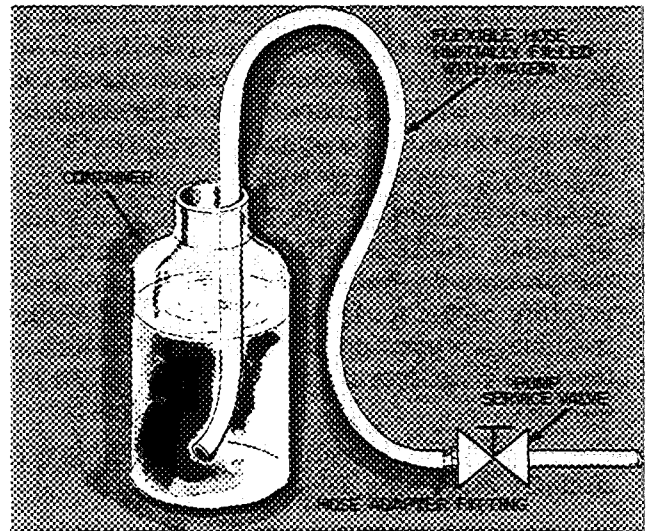

Fig. 28 – Adding or Removing Liquids
Fill a length of flexible tubing with water and connect one end to the solution pump service valve (see Fig. 28). Insert the other end in a container of octyl alcohol. Place the solution pump switch in the OFF position to de-energize the pump. Then open the service valve to allow alcohol to be drawn into the machine. *Close valve before air can be drawn into the hose.* Return the solution pump switch to the ON position.
2. Fill a length of flexible tubing with water and connect one end to the hose adapter. Place the free end in a container of water. Be sure end is submerged (Fig. 28).